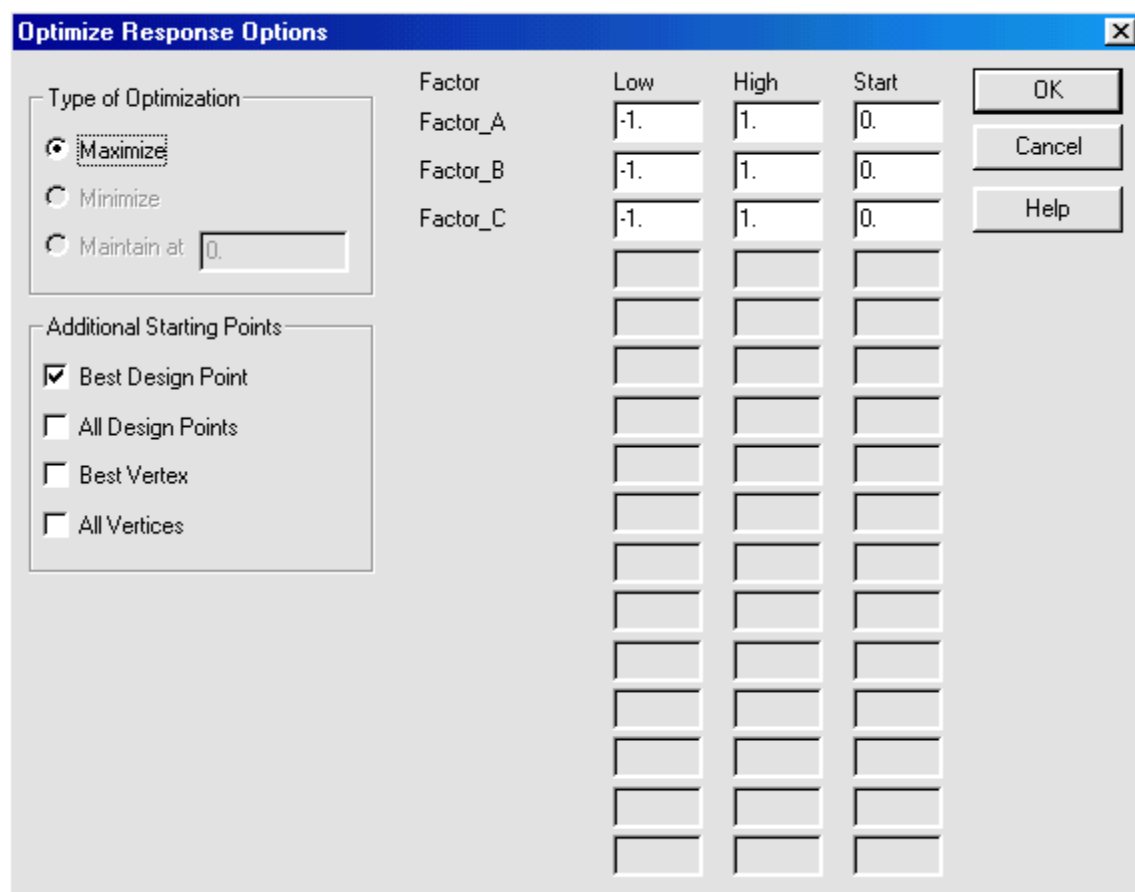

Figure 11-14. Optimize Response Options Dialog Box
2. Click OK, then place the mouse pointer on the Optimize Desirability pane, click the right button, then the left on Pane Options... to display the Optimize Response Options dialog box shown in Figure 11-14.